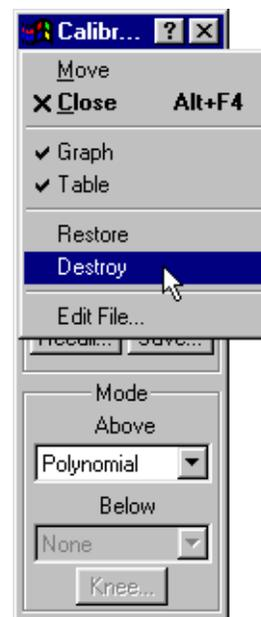

Figure 47.
- 5) On the Efficiency Calibration Sidebar, click the icon in the upper left of the title bar to open the *control menu*, as illustrated in Fig. 47, then select **Destroy**. The Efficiency Graph and Table windows will close, but the spectrum/buffer window and Efficiency Calibration Sidebar will remain open.